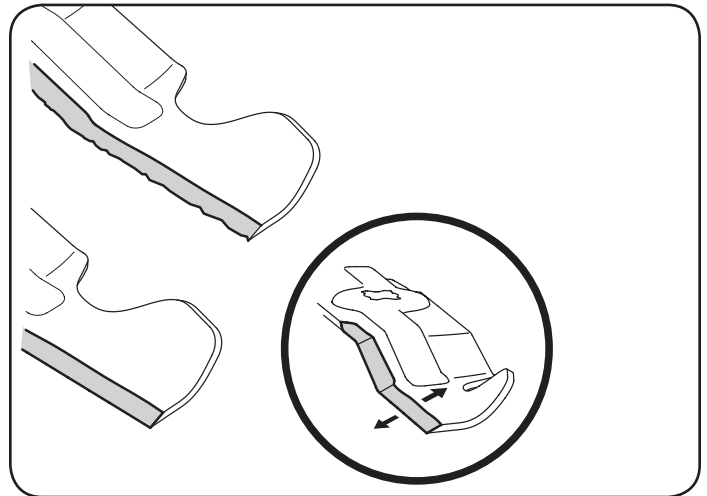

Figure 28
4. To properly sharpen the cutting blades, remove equal amounts of metal from both ends of the blades along the cutting edges, parallel to the trailing edge, at a 25°- to 30° angle. Always grind each cutting blade edge equally to maintain proper blade balance. See Figure 28.